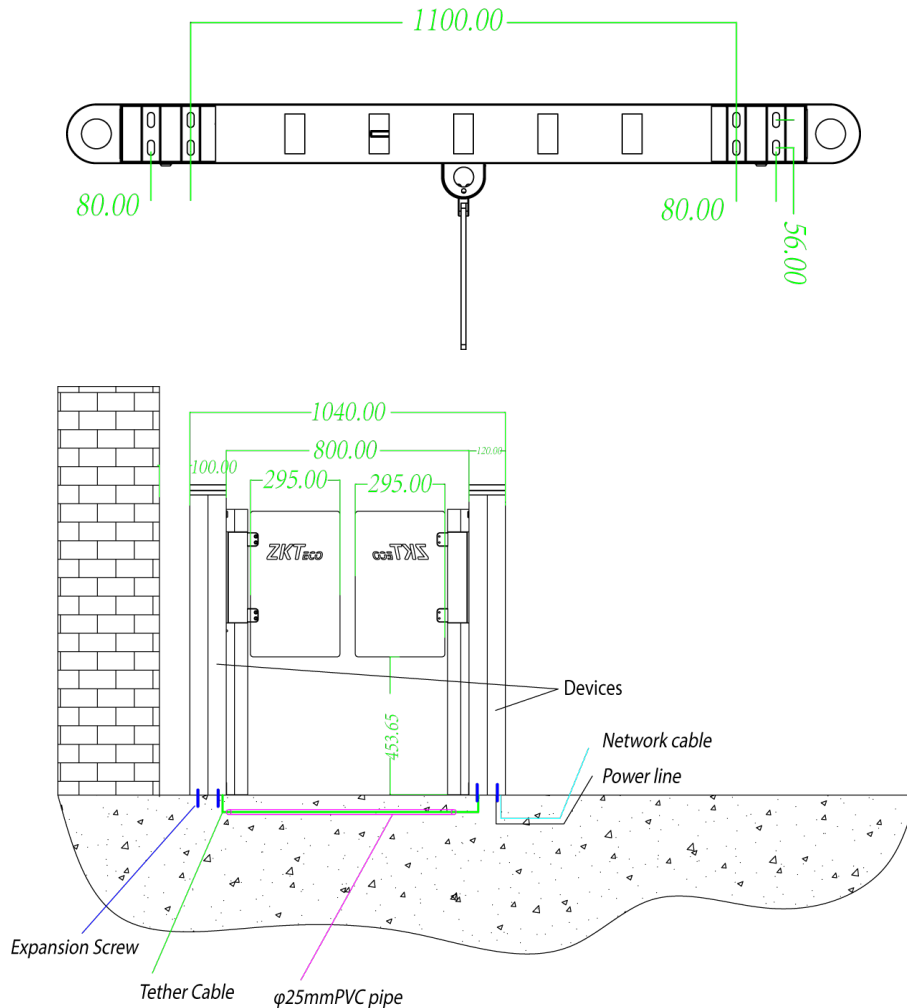

Figure 2-1
2. Drill holes after determining the hole positions based on the mounting template as shown in Figure 2-1. Insert the expansion bolt into the holes accordingly.